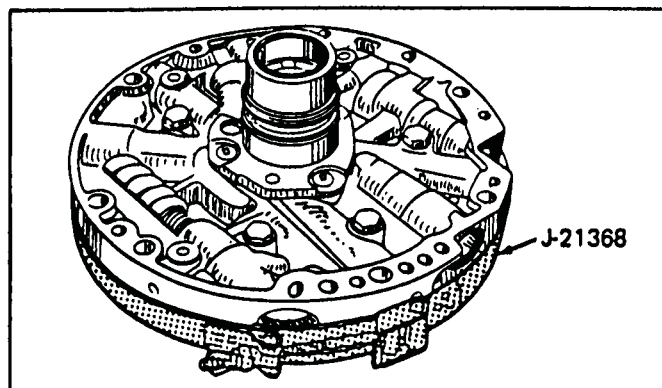

Figure 140
17. Install alignment tool J-21368 onto the oil pump assembly as shown in Figure 140.